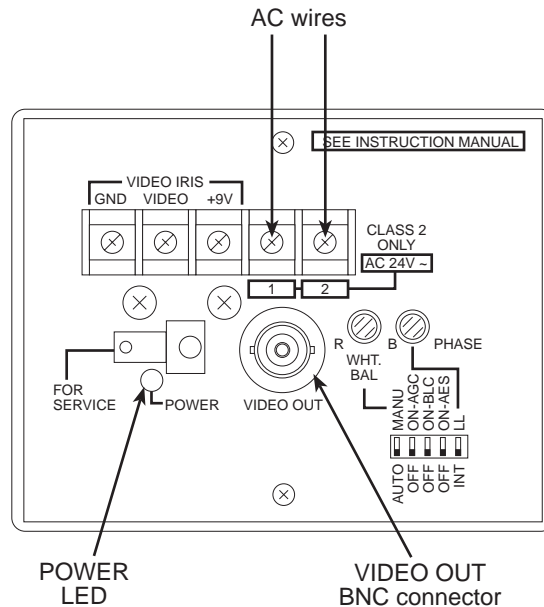

Figure 10. Installing the AC power wires
4. Install the AC power wires onto the camera terminals shown in figure 10.
5. Install the video cable BNC connector onto the *VIDEO OUT* connector on the camera (see figure 10).
6. Install the AC power transformer into a wall receptacle or power strip. Verify that the green *POWER LED* (see figure 10) is lit.